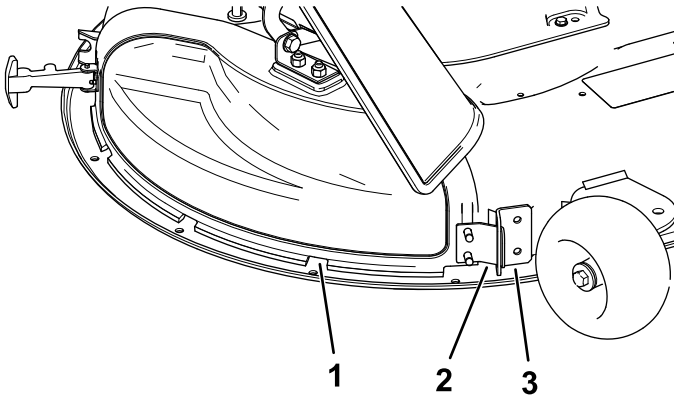

Figure 13
5. Angle the metal tab on the discharge cover out of the slot in the bracket welded to the mower deck (Figure 13).